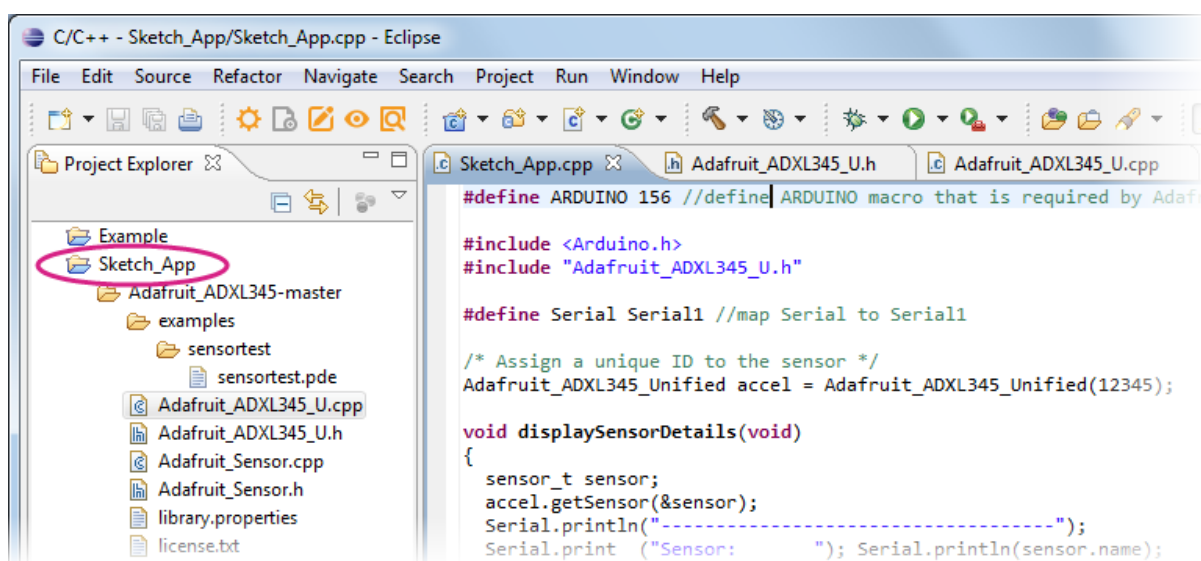

Figure 57 Importing peripheral drivers
- a) Open **Windows Explorer** and copy your Arduino driver library into the **Sketch_App** folder of the imported project's workspace, such as `\workspace\Sketch_App`. In **Project Explorer** open the shortcut menu on **Sketch_App** and click **Refresh** to update the project. Figure 57 shows an example of an ADXL345 driver being imported.